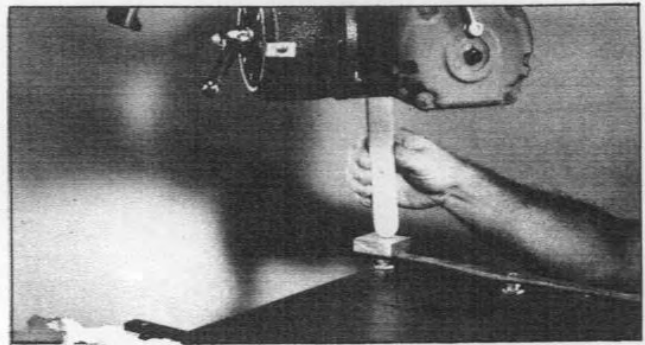

Fig. 15
9. Install leveling strips at the front corners, as shown in Fig. 15, and adjust if necessary. NOTE: It may be necessary to fasten the front table screws in the leveling strips in order to hold the front of the strips down.